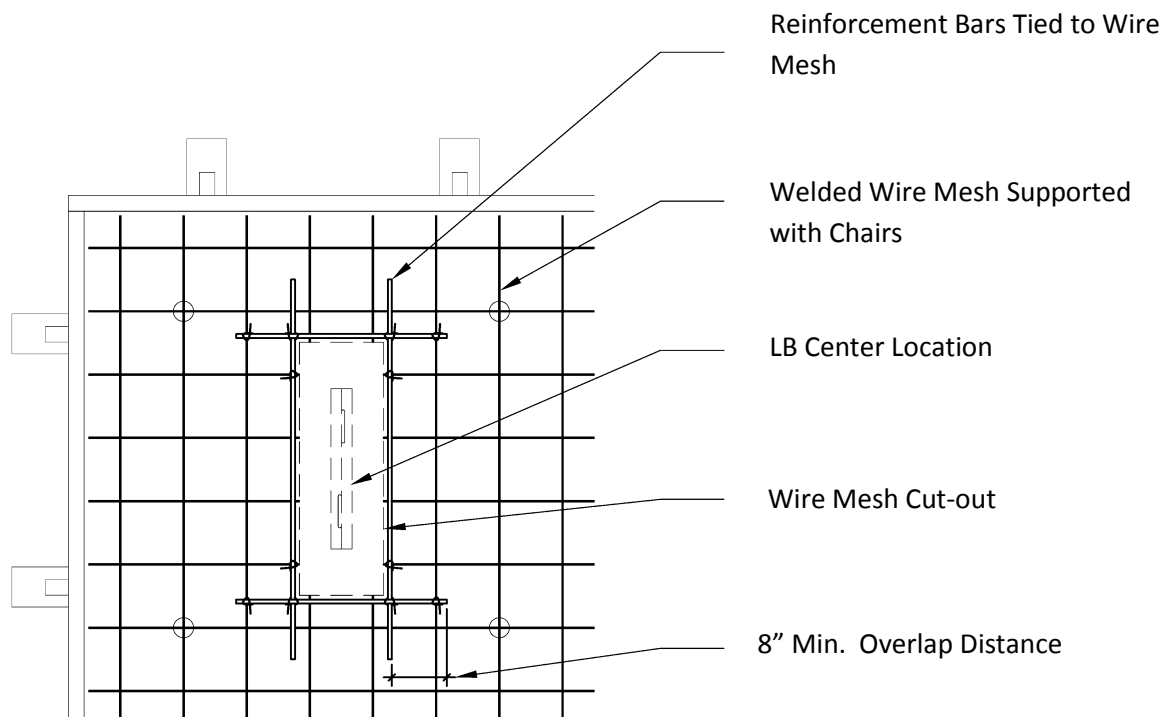

Figure 1 – Recommended procedure for trimming welded wire mesh around X-connector. Cutouts are stiffened with bar reinforcement around perimeter.
Once wire mesh has been cut, tie four (4), #3 reinforcing bars to the cut edges of the wire mesh. See **Figure 1** below for further explanation. Cutting out the wire mesh in these areas will help avoid any obstructions when inserting the ties.
When casting on insulation, it's recommended to use reinforcing chairs with wide feet or sand plates to support rebar or wire mesh. You may need to cut wire mesh at X-Connector locations for it to be placed into its proper position. See **Figure 1** on the previous page for information on how to make the correct cuts. The use of chairs of this type will limit their sinking into insulation during reinforcement and concrete placement.